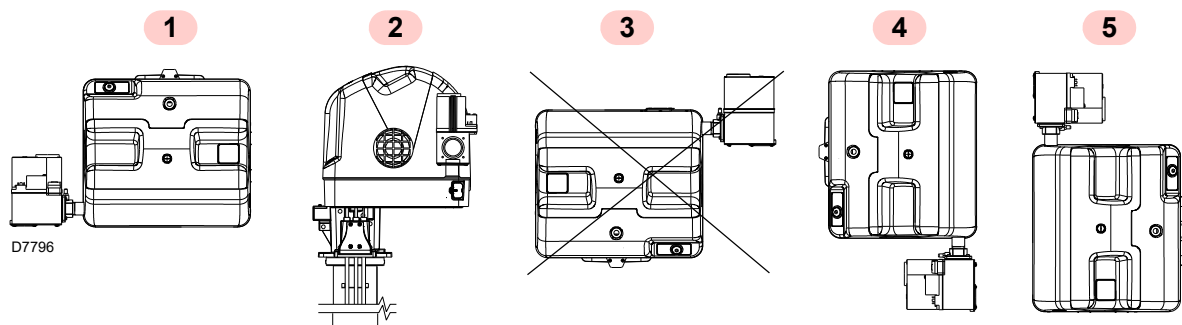

Fig. 13
- The burner is designed to operate only in positions **1**, **2**, **4** and **5** (Fig. 13).
- All the positions require the installation of the gas valve with coils facing upwards or horizontally (Fig. 13).